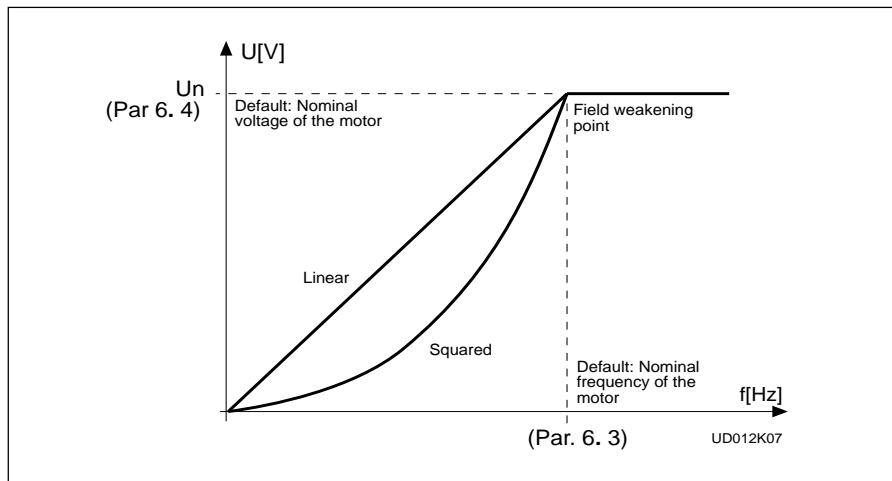

Figure 5.4.-2 Linear and squared U/f curves.
Linear: The voltage of the motor changes linearly with the frequency in the constant flux area from 0 Hz to the field weakening point (par. 6. 3) where the nominal voltage is also supplied to the motor. See figure 5.4.-2. Linear U/f ratio should be used in constant torque applications.
- Squared: 1 The voltage of the motor changes following a squared curve form with the frequency in the area from 0 Hz to the field weakening point (par. 6. 3) where the nominal voltage is also supplied to the motor. See figure 5.4.-2.
- Programm. U/f curve 2 The U/f curve can be programmed with three different points. The parameters for programming are explained in Chapter 5.5.2. Programmable U/f curve can be used if the other settings do not satisfy the needs of the application. See figure 5.4.-3.